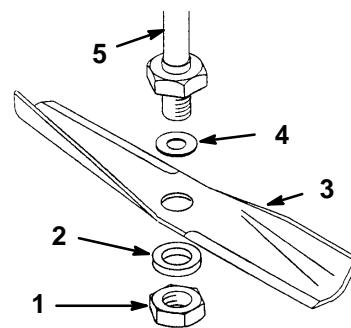

Figure 24
3. Remove the nut, flat washer, blade and washer (Fig. 24). A block of wood may be wedged between the blade and the mower to lock the blade when you are removing the bolt.